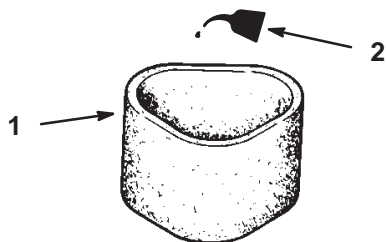

Figure 28
3. Put one or two ounces of oil on the element (Fig. 28). Squeeze the element to distribute the oil.